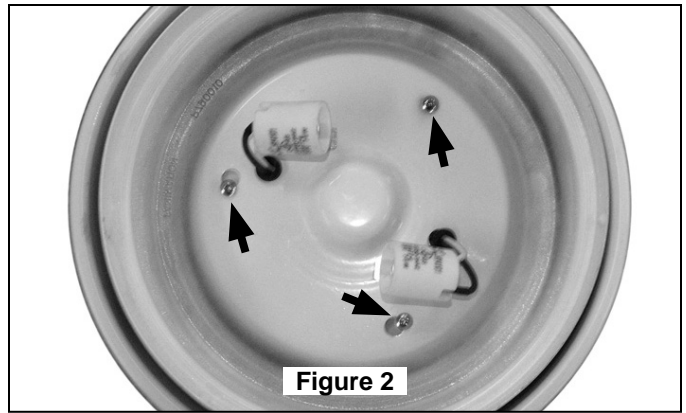
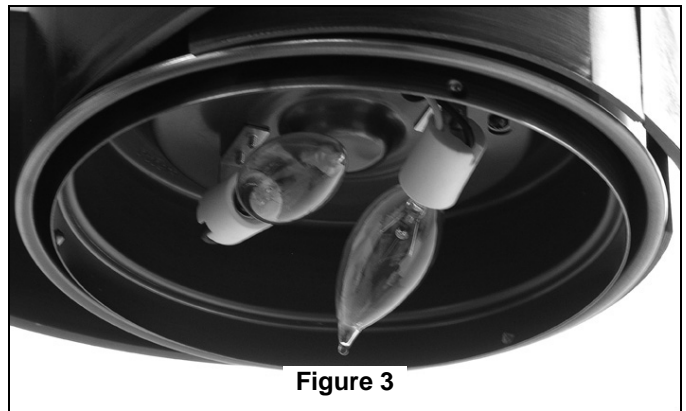

Figure 2
Figure 3
3. Loosen the two setscrews in the Downrod Support. Align the Clevis Pin holes in the Downrod with the holes in the Downrod Support. Install the Clevis Pin and secure with the Hairpin Clip. (Figure 2) Be sure to push the straight leg of the hairpin clip through the hole near the end of the clevis pin until the curved portion of the hairpin clip snaps around the clevis pin. The hairpin clip must be properly installed to prevent the clevis pin from working loose. Pull on the Downrod to make sure the clevis pin is properly installed.
4. Route wires through Motor Coupling Cover and through opening in Canopy Screw Cover and Canopy. Position Canopy Screw Cover and Canopy on fan shown with open side facing up. (Figure 3)
6. While pulling up on the hanger ball, securely tighten the two setscrews in the downrod support. (Figure 2)
7. Slide the Motor Coupling Cover down until it touches the top of the Housing. (Figure 3)
1. Securely attach the hanger bracket to the outlet box using the outlet box screws and washers supplied with the outlet box (Figure 2).
NOTE: Outlet box screws pass through slotted holes of the hanger bracket (Figure 2).
3. Carefully lift the fan and seat the downrod/hanger ball assembly on the hanger bracket that was just attached to the outlet box (Figure 3). Be sure the groove in the ball is lined up with tab on the hanger bracket (Figure 2).
- Connect wires as indicated: (Figure 3)
2. Securely attach Downlight Socket Plate Assembly to the Adapter Plate by tightening three screws provided with the fan. (Figure 2)
3. Install two Candelabra Bulbs (included - 60 watts max) in each of the sockets on the Downlight Socket Plate Assembly. (Figure 3)